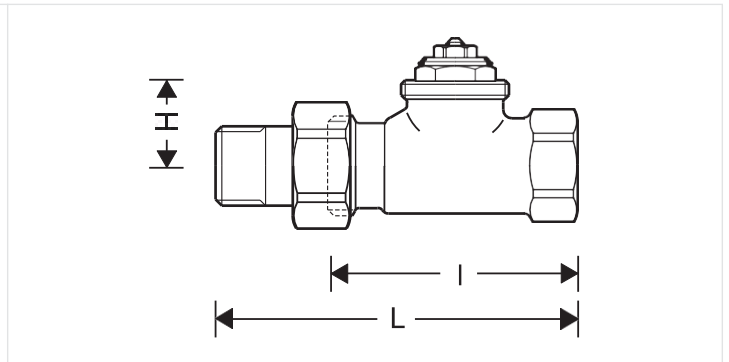

Fig. 4. Straight
| Straight to EN215 (D)(Fig. 4) | 10 | 0.35 (0.41)             | Rp 3/8"         | 59 | 85 | -  | 25 | -              | V2000DFV10 |